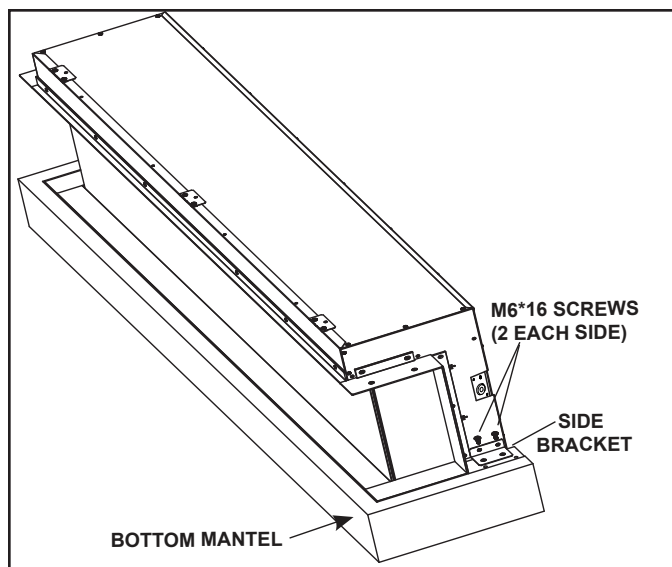

Figure 17
6. Secure the bottom mantel to the side brackets using four (4) M6\*16 screws. See Figure 17.